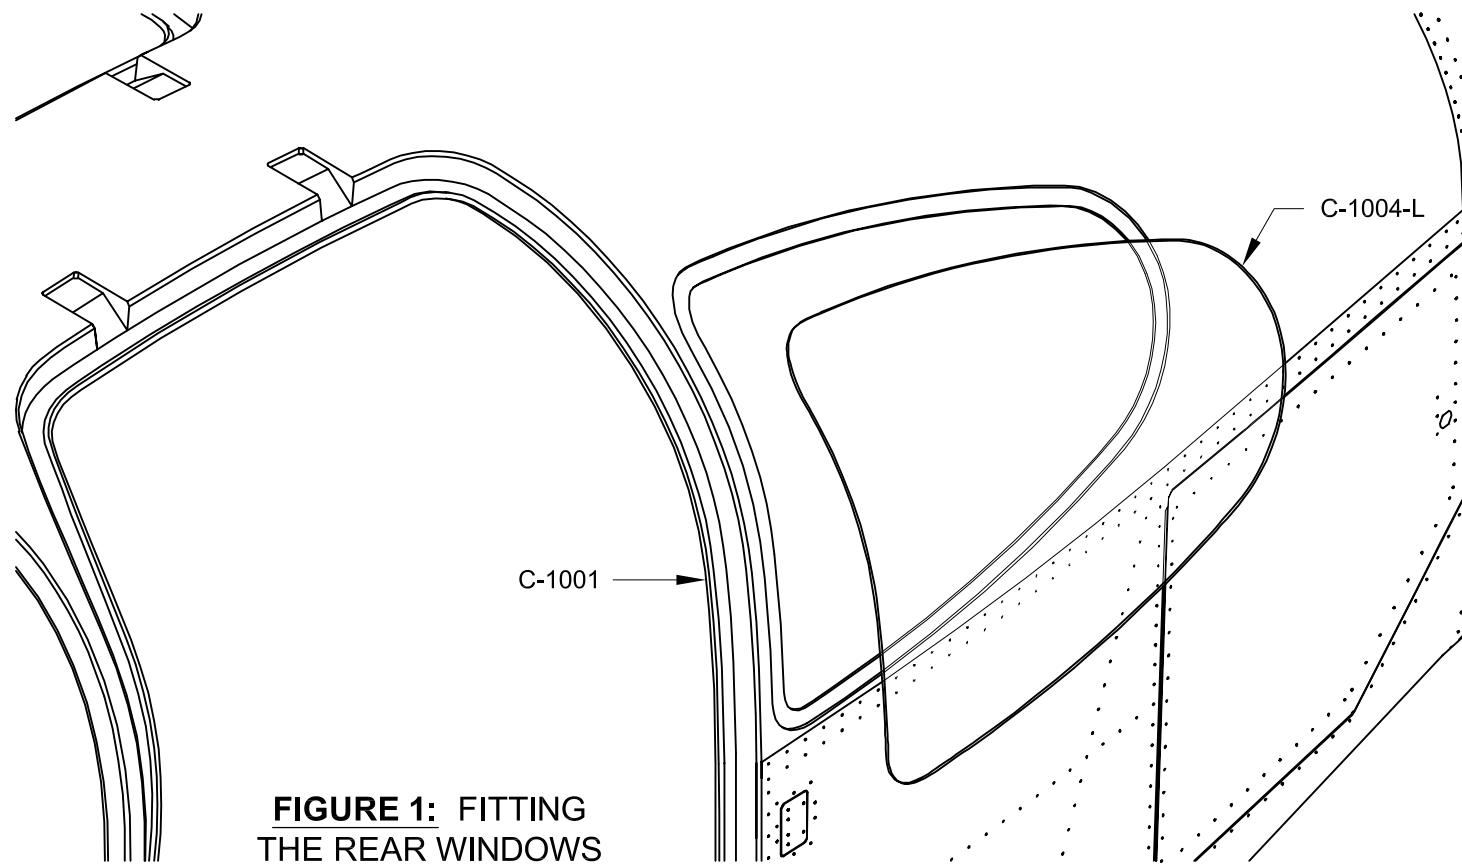

FIGURE 1: FITTING THE REAR WINDOWS
Step 1: Trim the C-1004-L Rear Window to the scribe line, then test fit it on the C-1001 Cabin Cover as shown in Figure 1. Press the window securely to the cabin cover so that it contacts the entire flange around the window opening. Note any interference of the window with the lip around the flange, and trim if necessary. Repeat this step for the right rear window.